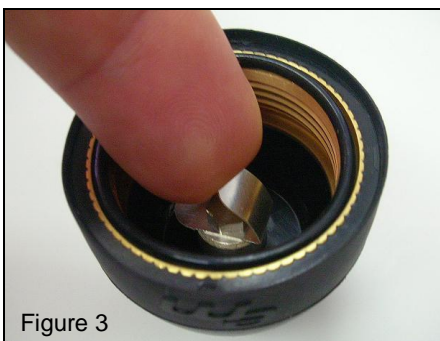

Figure 3
- Ensure O-ring is properly seated within O-ring groove as shown in Figure 3.
4. Tuning and Installation (Figure 3):